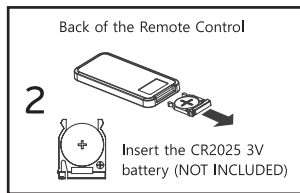

Fig. 13
3. Push the battery compartment back to the Remote Controller. (Fig 13)